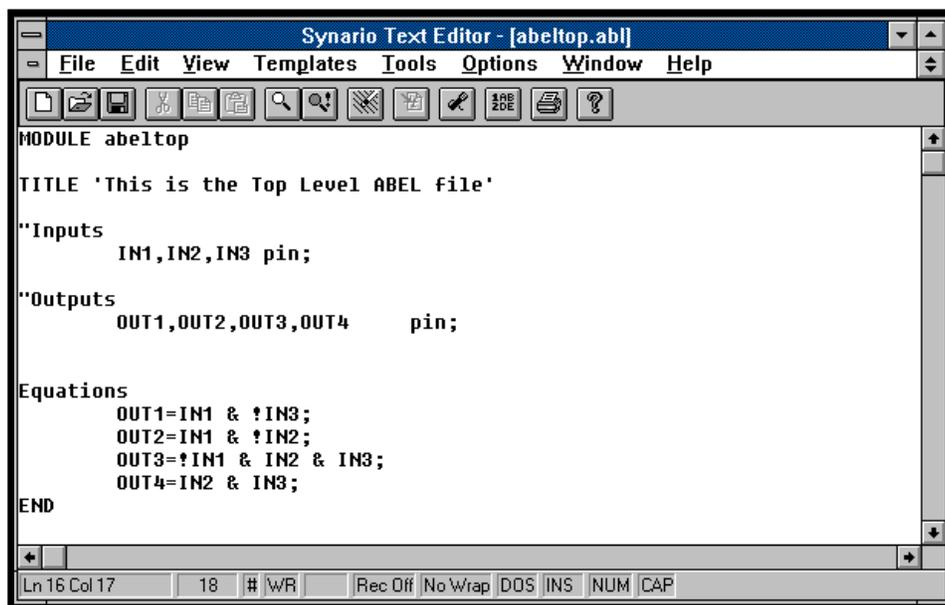

Figure 1-27. Synario Text Editor with Code Entered
50. Enter the code as follows. Make sure that you enter it between the TITLE statement and the END statement as shown in Figure 1-27.